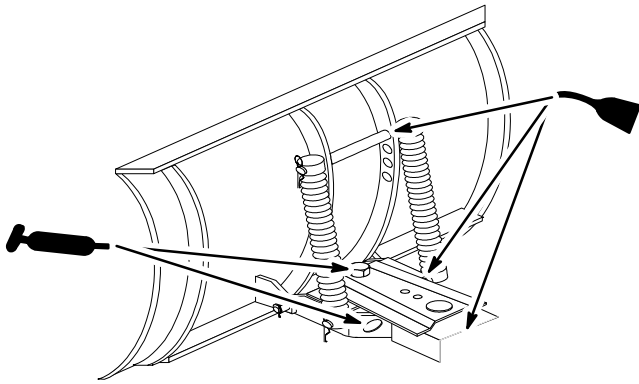

Figure 17
3. Clean the area around the channel pivot with a rag. Apply grease to the pivot bolt, frame and sector (Fig. 17).
2. Place a few drops of oil on all movable linkages (Fig. 17).